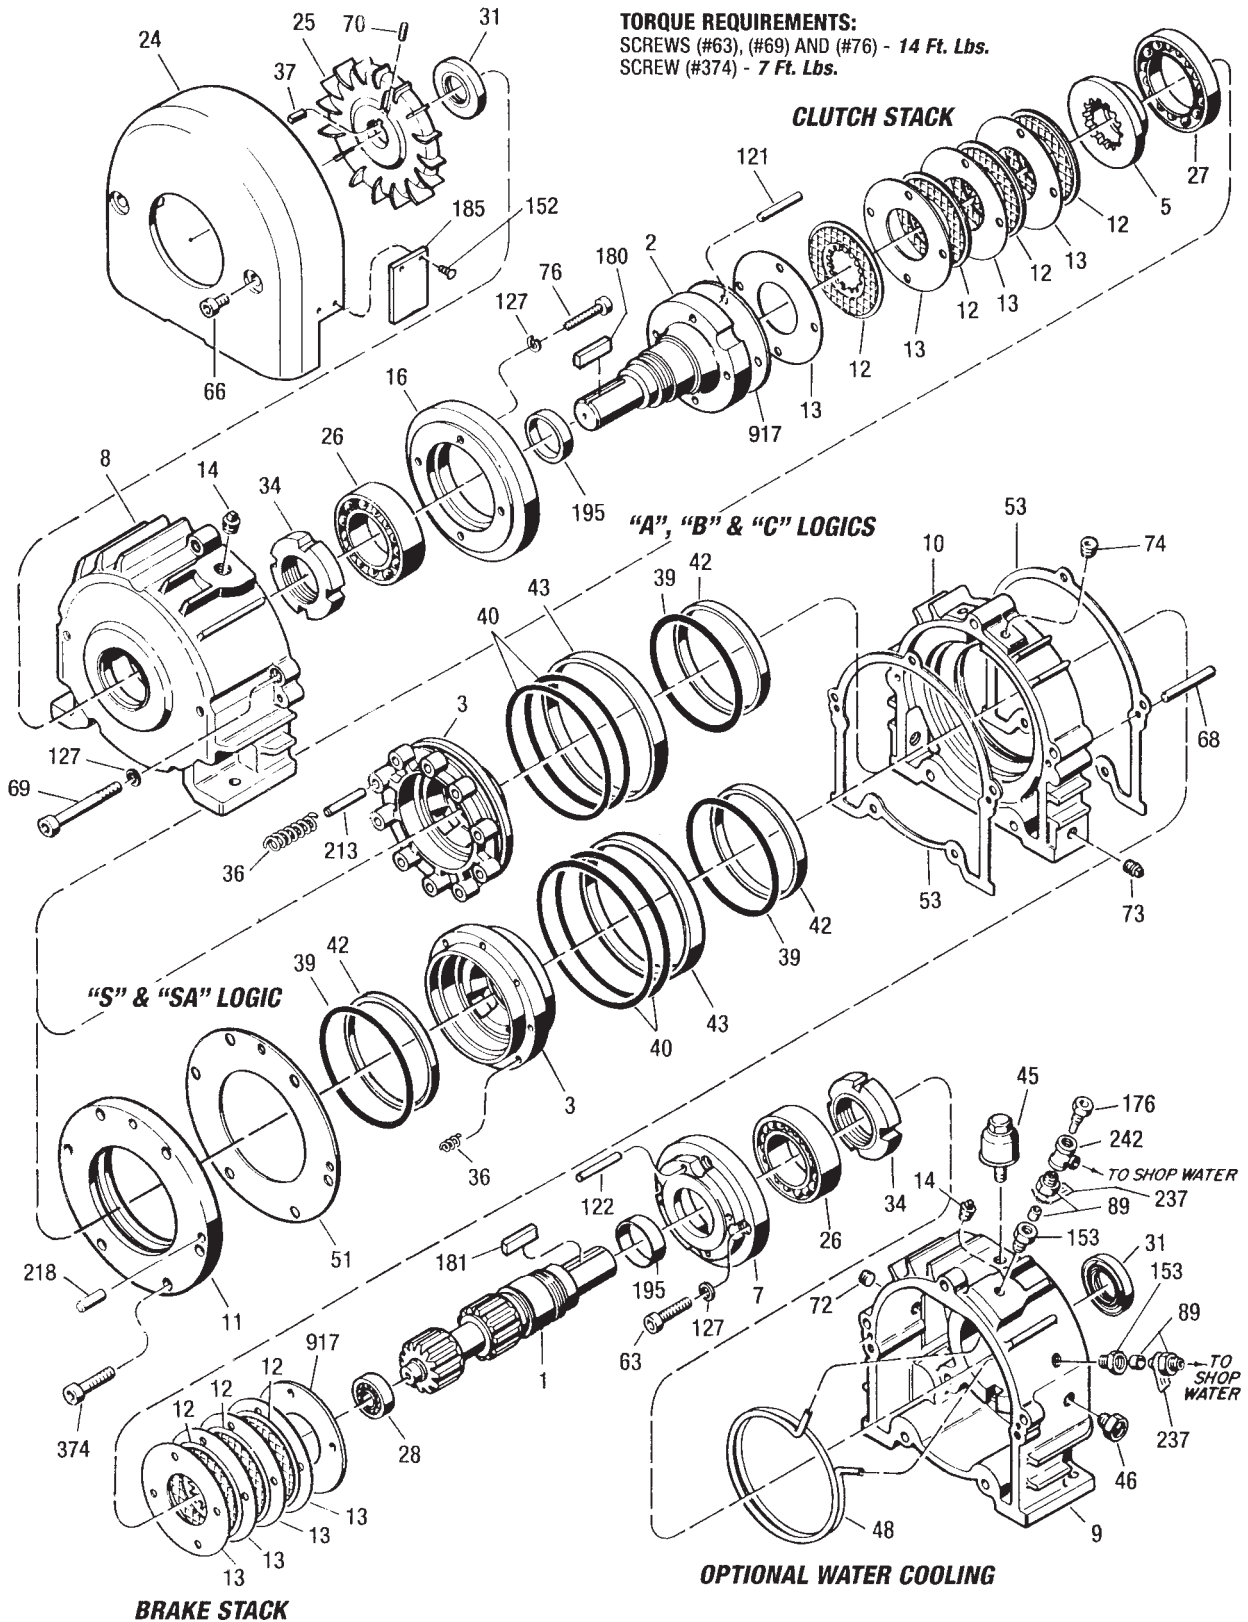

Figure 10.1 - 02 Posidyne Clutch/Brake Assembly
**OUTPUT (5)**
**Repair Parts List - Figure 10.1**